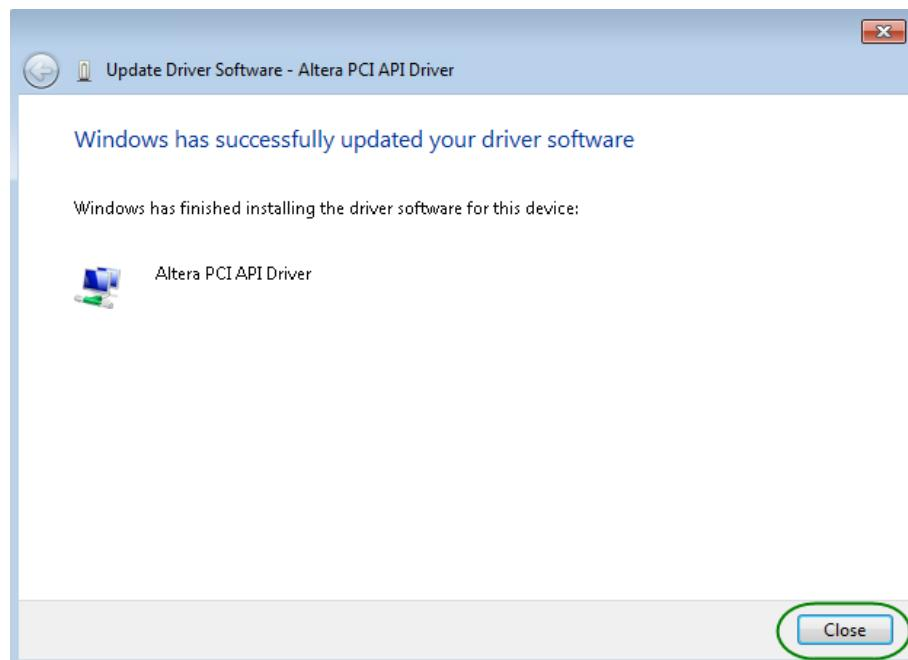

Figure 7-7 Click Close when the installation of Altera PCI API Driver is complete
- When the driver is installed successfully, the successfully dialog will appears, as shown in **Figure 7-7**. Click the **Close** button.